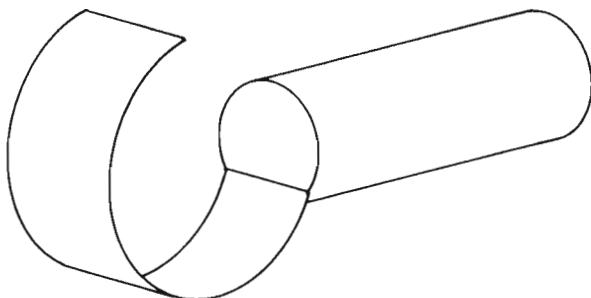

Fig. 2 - Heat Gun Reflector
- d. Apply heat to heat shrinkable tubing using a heat gun with a reflector, Fig. 2. Apply heat to the center of the tubing and work toward one end. Apply heat again to the center of the tubing and work toward the opposite end. This procedure will assure an equal distribution of the longitudinal shrinkage. Apply heat only long enough to allow tubing to assume contour of the cable. Application of additional heat will serve no useful purpose.